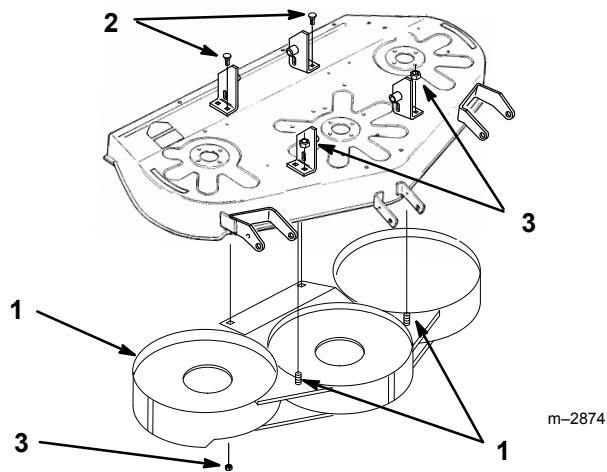

Figure 5
3. Remove lock nuts from studs and carriage bolts (Fig. 5). Lower baffle and slide out.
4. Install previously removed 3/8 x 1-1/4" (32 mm) bolts and 3/8" lock nuts to secure linkage brackets (Fig. 5).